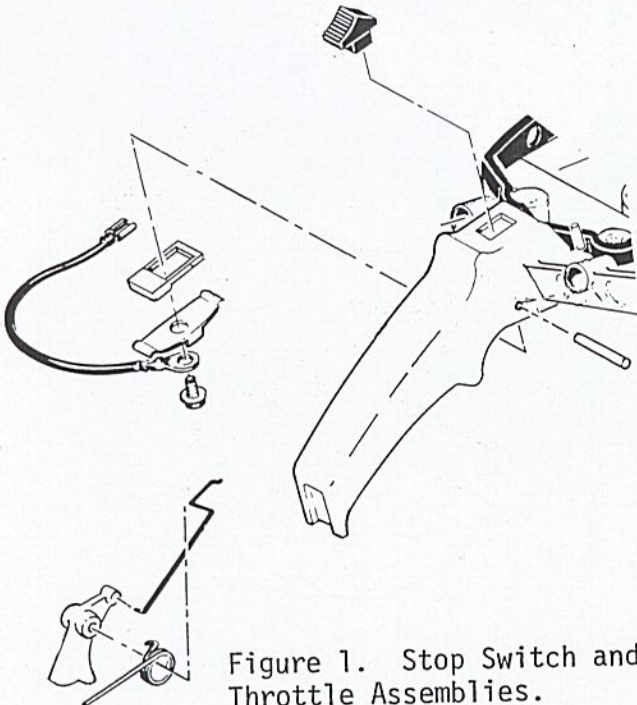

Figure 1. Stop Switch and Throttle Assemblies.
4. Remove and discard the following parts before re-installing the fuel tank assembly: (A) two roundhead screws from the bottom of the airbox that secure the DSP bracket, (B) DSP bracket, (C) spring, (D) DSP lever assembly, and (E) DSP control button/stop switch assembly.
5. Remove and keep the following parts for re-installation: (A) Roll Pin 3/16 x 15/16", P/N 110378; (B) Trigger, P/N 88796; and (C) Trigger Spring, P/N 87178.
6. Install the Stop Switch Button, P/N 68846, Base, P/N 62950A, Contact, P/N 62451, Wire Assembly, P/N 62973A, and attach these parts with screw, P/N 103672 (Fig. 1). When the stop switch assembly is installed, re-install the throttle, throttle return spring, and throttle pin. Plug the two holes in the airbox with Rivets, P/N 110531, (install from top so that head of rivet is inside airbox).